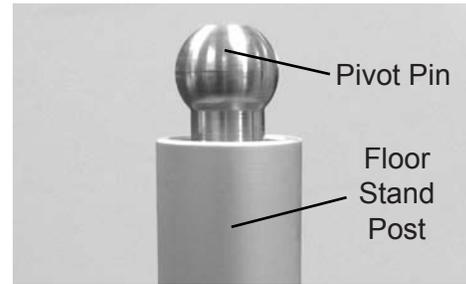

Figure IS-14 Pivot Pin
2. Loosen the Fork Adjusting Screws on the Yoke Assembly and place the Yoke Assembly on the Pivot Pin. Refer to Figure IS-14 and IS-15.